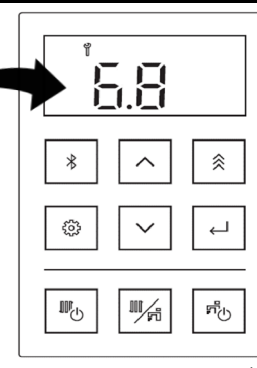

Fig 3. Data Appearing in Display
- The data for the performance number automatically appears in the display (Fig 3).